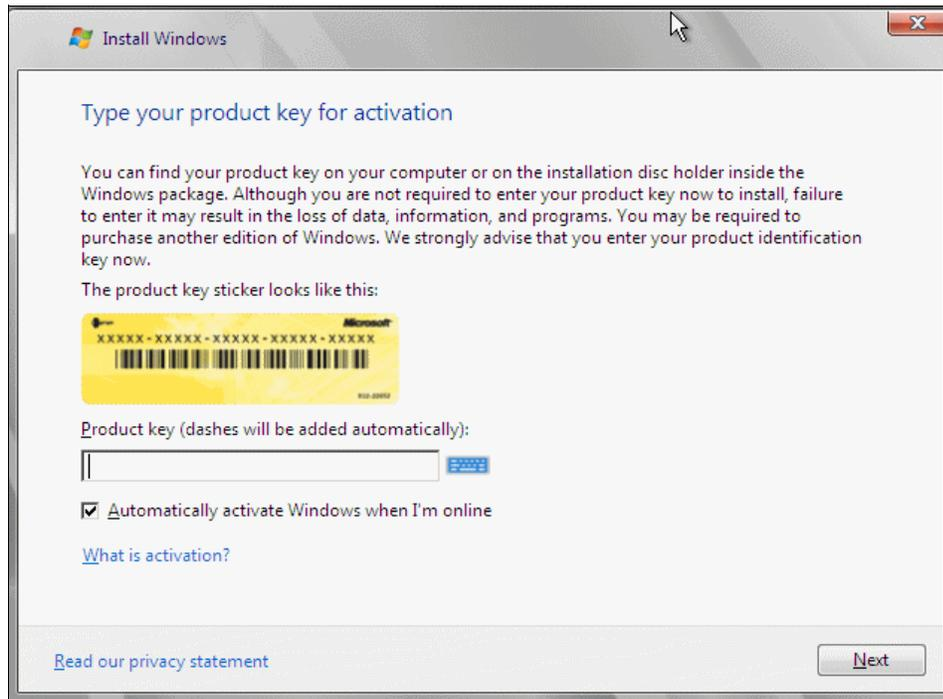

Figure 18-41 Entering the product key
4. Enter the product key and click **Next**, as shown in Figure 18-41.